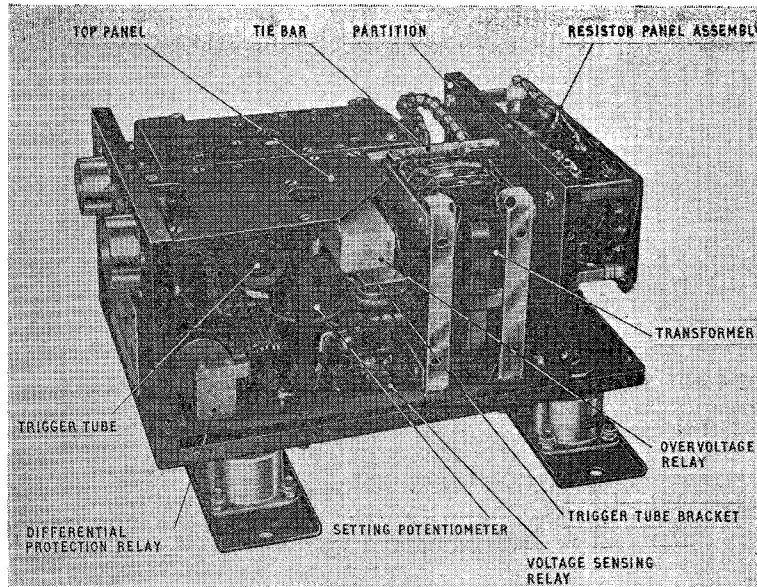

Fig. 2. General view, showing components
4. The control unit consists of the following assemblies, the layout of which can be seen in figs. 2 and 3.